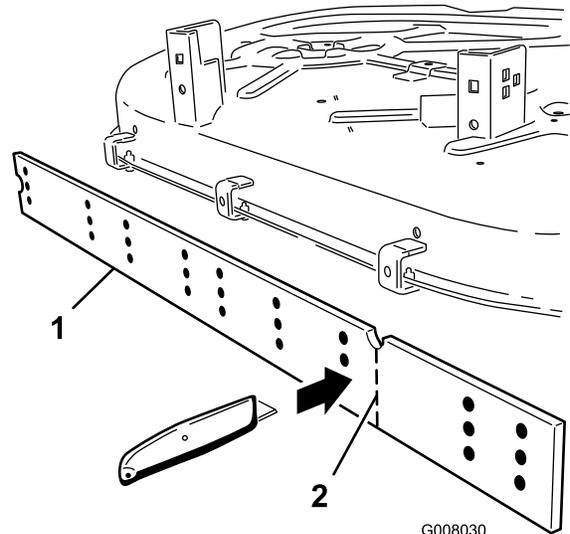

Figure 3
- Cut the wiper at the notch as shown below with a suitable tool such as tin snips or retractable blade. Use caution when cutting through the tough material (Figure 3).